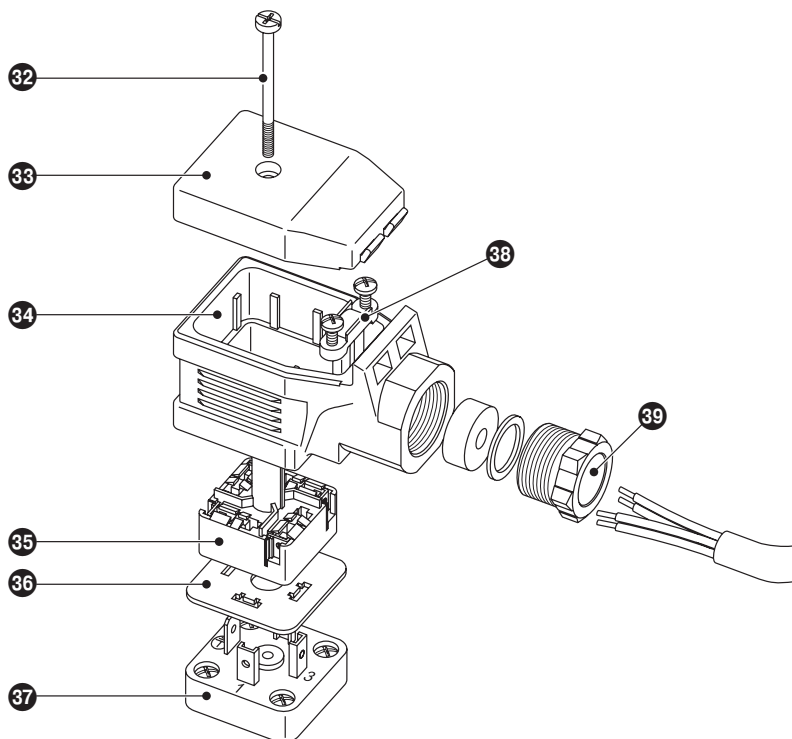

Fig. 20
1. Undo the screw 32. **Fig. 20**
1. Undo the screw  **Fig. 20**